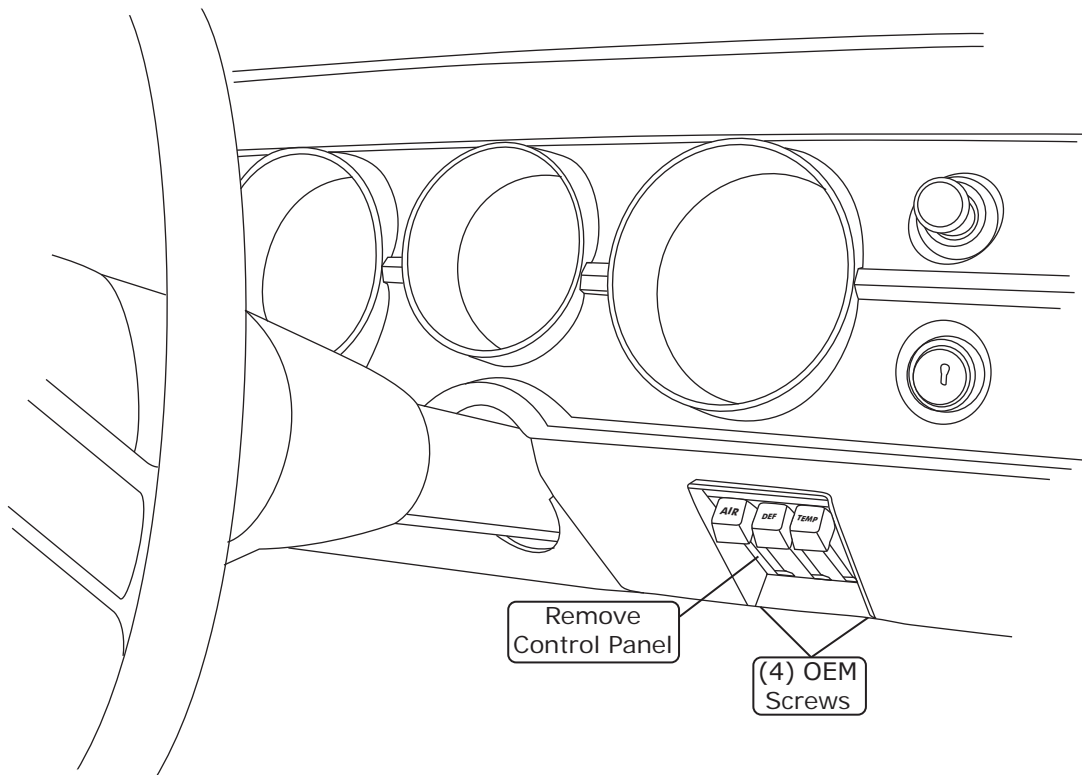

Figure 1
1. Remove (4) OEM screws from the bottom of the dash (retain) (See Figure 1, below).